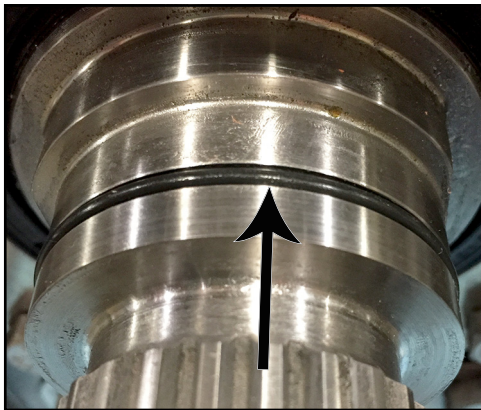

Figure 178 - O-ring installed
23. Figure 178 shows the O-ring installed in the shaft groove.